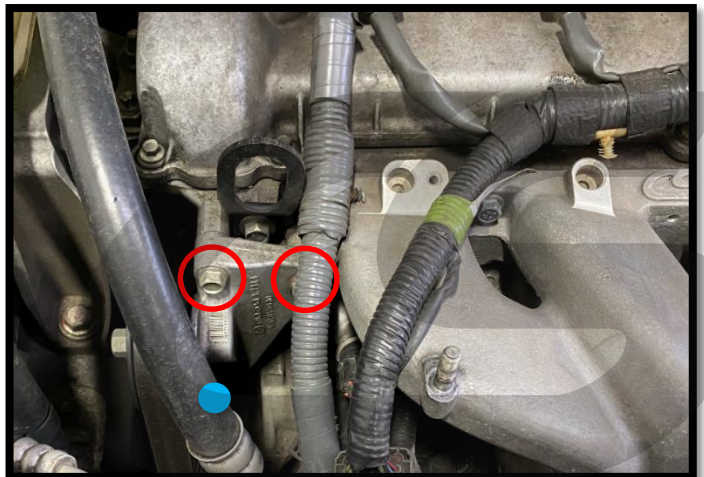

Figure 7b
- c) The OEM engine lifting point needs to be removed for fuel line clearance. Gain access by removing the two upper bolts on the power steering pump (GEN1) or idler pulley (GEN2) with a 12mm socket and ratchet. Circled in red in Figure 7b.
- d) Then, loosen the lower mounting point of the power steering pump/idler pulley. Location marked in blue in Figure 7b. The bracket will rotate over as shown in Figure 7c on the next page.